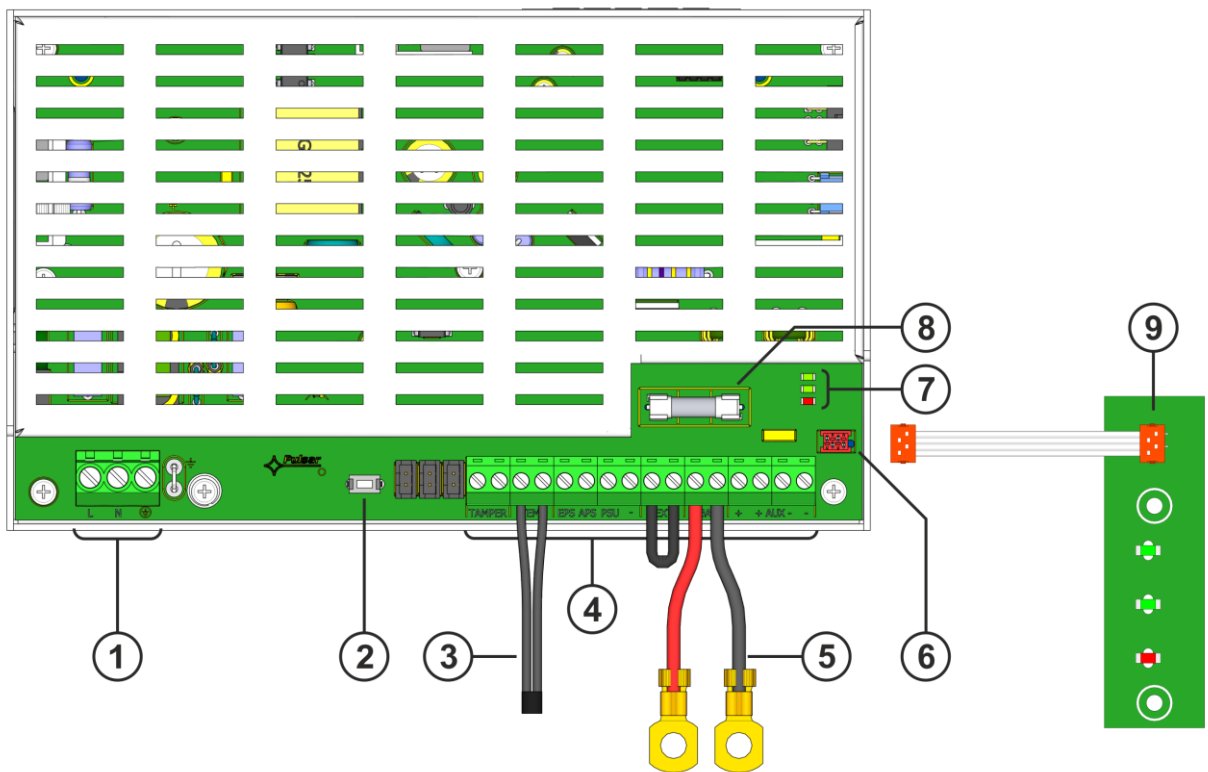

Fig. 2. PSU module.
Table 1. Elements of PSU PCB (Fig. 2).
6. Screw terminals of temperature sensor to "Temp" terminals of PSU (figure 2, point 3). Attach sensor to battery, e.g. with adhesive tape. For the 27.6 V version, it is recommended to place sensor between batteries. Optionally, you can install additional PKAZ168 signalling module (chapter 4.3).